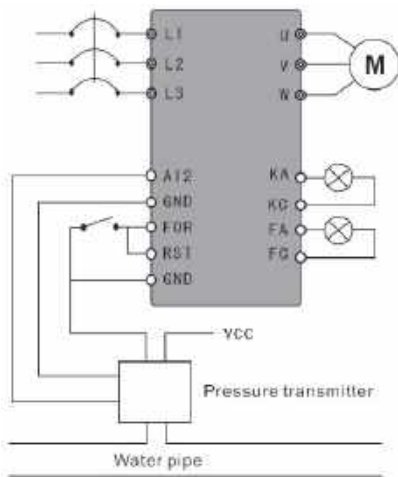

Figure F-5 Constant-Pressure Water Supply – Pressure Transmitter
(1) Use pressure transmitter with the range of 0-10kg and feedback of 4-20mA; pressure water supply of 5kg as required, alarm while above upper limit of 6kg and below lower limit of 4kg, and stop starting external terminal. As shown in Figure F-5.